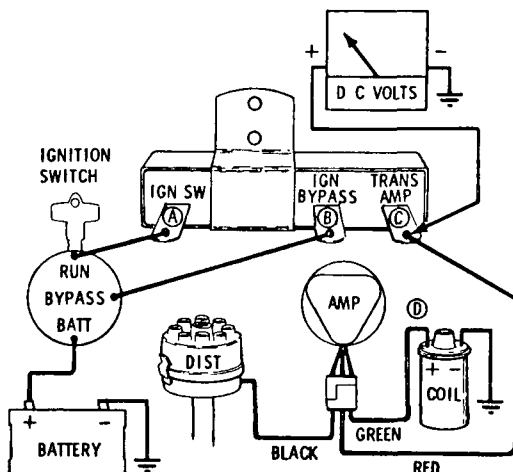

Figure 2
1. Refer to Figure 2. With the ignition "ON", engine not running, and the distributor breaker points "OPEN", the voltmeter should read 9.5 volts, i.e. battery voltage.